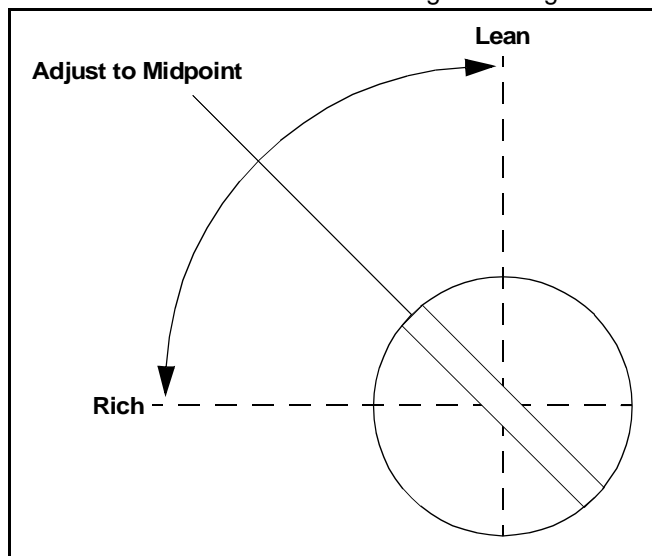

Figure 13
2. **Low Idle Fuel Needle Setting:** Place the throttle into the “idle” or “slow” position. Turn the low idle fuel adjusting needle out (counterclockwise) from the preliminary setting until engine speed decreases (rich). Note the position of the needle. Now turn the adjusting needle in (clockwise). The engine speed may increase, then it will decrease as the needle is turned in (lean). Note the position of the needle. Set the adjusting needle midway between the rich and lean settings. See Figure 13.